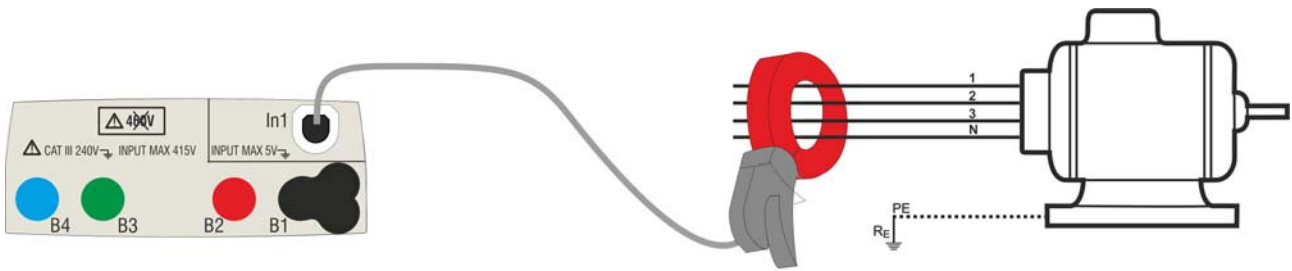

Fig. 24: Indirect measurement of leakage current in three-phase systems
4. For indirect measurements of leakage current, connect the external clamp according to Fig. 24. For direct measurements of leakage current, connect the clamp according to Fig. 25 and disconnect possible additional earth connections that could influence the test results.